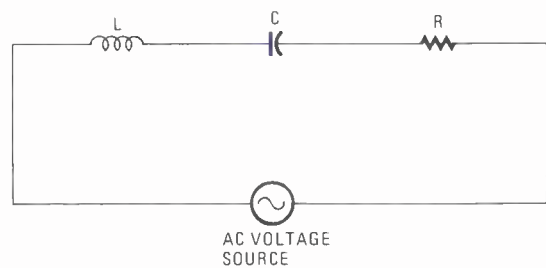

Fig. 1—A series LCR circuit must contain at the very least an inductor (L), a capacitor (C), and a resistor (R).
2. (oppose) Inductors or capacitors can each be used with resistance to form a combined opposition called *impedance* (Z). As shown in Fig. 1, inductors and capacitors can be used together to form a combined impedance. An inductor (L), capacitor (C), and resistor (R) are all connected in series to an AC voltage source. This is called an LCR circuit. The total